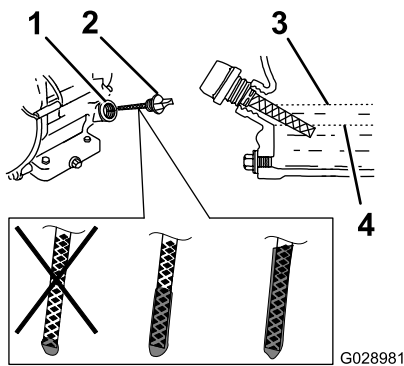

Figure 44
6. Remove the dipstick (Figure 44) and slowly pour oil into the fill hole until the oil reaches the upper-limit mark (bottom edge of the oil-fill hole) on the dipstick.